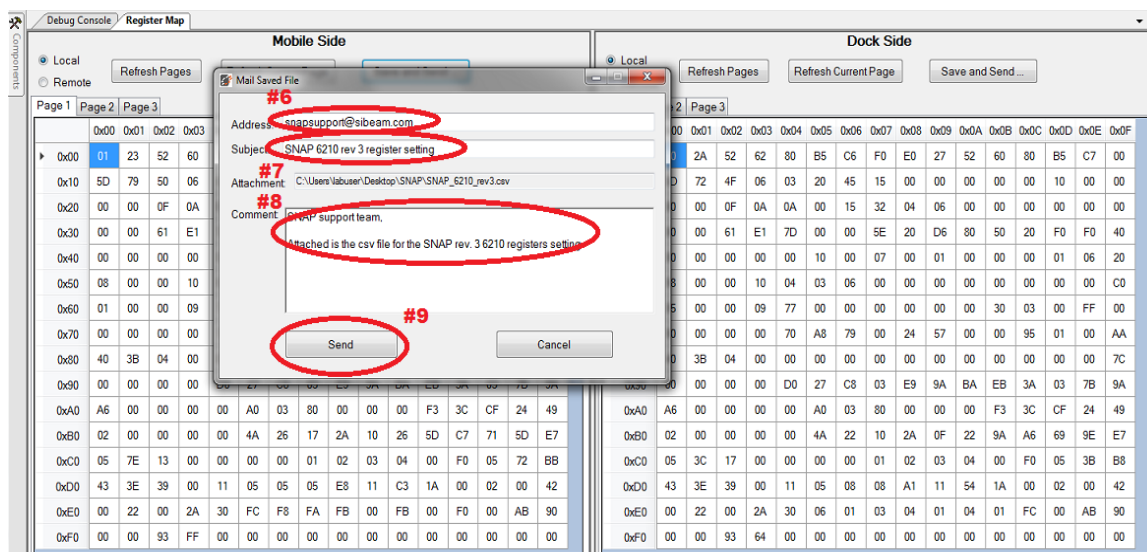

Figure 3.10. USB Register Map Sending Email Page
- The Mail Saved File dialog box is displayed to allow you to send the .csv file to the Snap team. **Address** (6) (Figure 3.10) can be SNAPsupport@sibeam.com or any Lattice/SiBEAM contact point.
- **Subject** (7) (Figure 3.10) is the title for this email.
- In **Comment** (8) (Figure 3.10), you can explain the purpose of sending this email to the Snap team.
- Click the **Send** (9) (Figure 3.10) button to send the email to the Snap team.